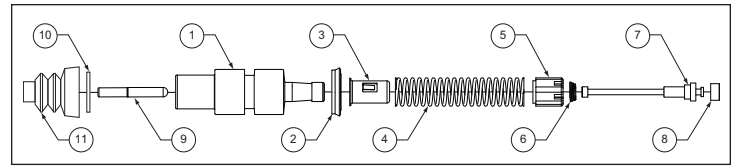

Figure 1. Master Cylinder Rebuilding Assembly Diagram
- Read the instructions and study Figure 1 to familiarize yourself with the procedure before you begin.
Rebuilding Instructions: Numbers in parenthesis refer to the parts depicted in Figure 1. Refer to Figure 1 as necessary during the rebuilding procedure.